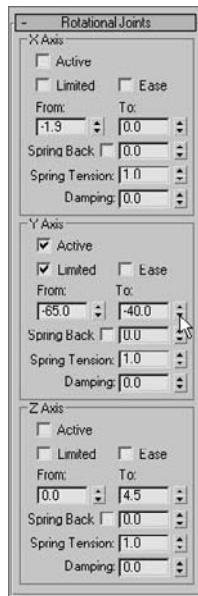

Figure 9.42
6. Check the Limited check box in the Y-axis section. Increase the From parameter to approximately -65 by dragging the spinners. The Pivot and its children will rotate in the viewport and then snap back to their original orientations when the mouse is released. Drag the To spinner to approximately -40, as shown in Figure 9.42. Limiting the orientation restricts how far the object can rotate in a particular axis, and dragging the spinners instead of typing in the values gives visual feedback regarding the axis about which the object is rotating.